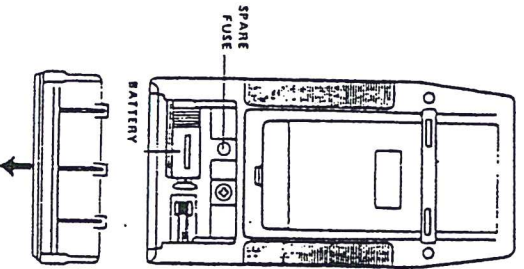

Fig. 3
- (1) When the left corner of LCD display show "LO BAT", It is necessary to replace the battery. However In-spec. measurements may still be made for several hours after the "LO BAT" appears before the Instrument becomes In accurate.
- (2) Slide the battery cover (fig. 3), away from the Instrument and remove the battery.
- (3) Replace with 9 V battery (006V DC 9V) and reinstall the cover.